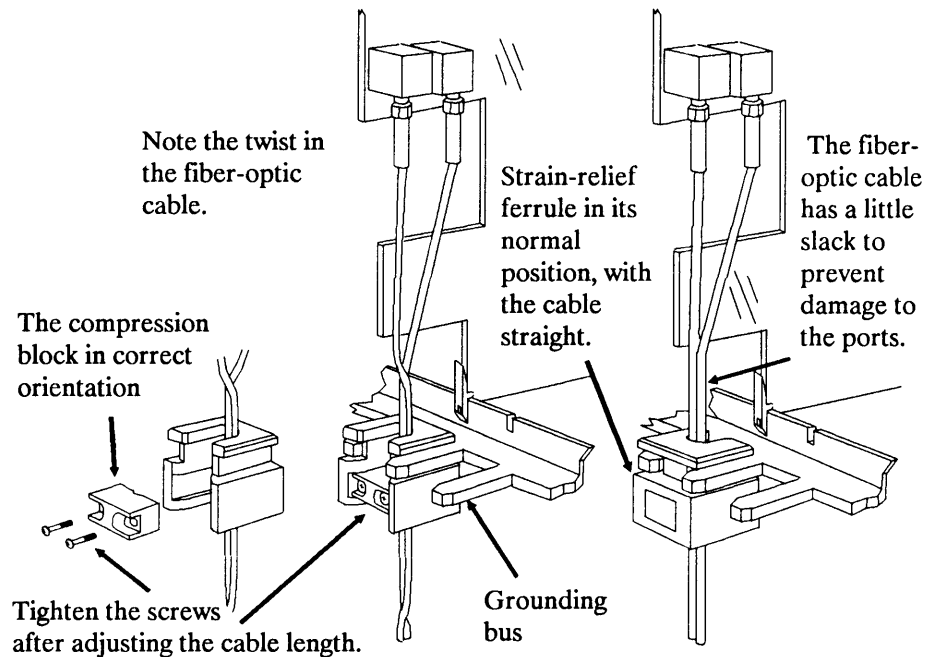

Figure 2-5. Fiber-Optic Cable Strain-Relief Ferrule
Once the PCA, with the attached cable, is in the CIO card cage, you will need to install a strain-relief ferrule (unless it is already installed on the cable). When properly connected to the CIO grounding bus (part of the CIO card cage), it provides strain relief and guides the fiber-optic cable out of the card cage. The computer power should be switched off for this procedure. Figure 2-5 illustrates installing a strain relief ferrule.
1. Place the ferrule into the “grounding bus” backwards – that is, with its open side exposed as shown in figure 2-5. As the figure illustrates, lay the fiber-optic cable into the ferrule with a half twist. (At the end of the installation process, you will take the twist out again. The cable will then be straight when the ferrule is in its normal position.) Be sure there is no tension on the PCA’s optical ports.